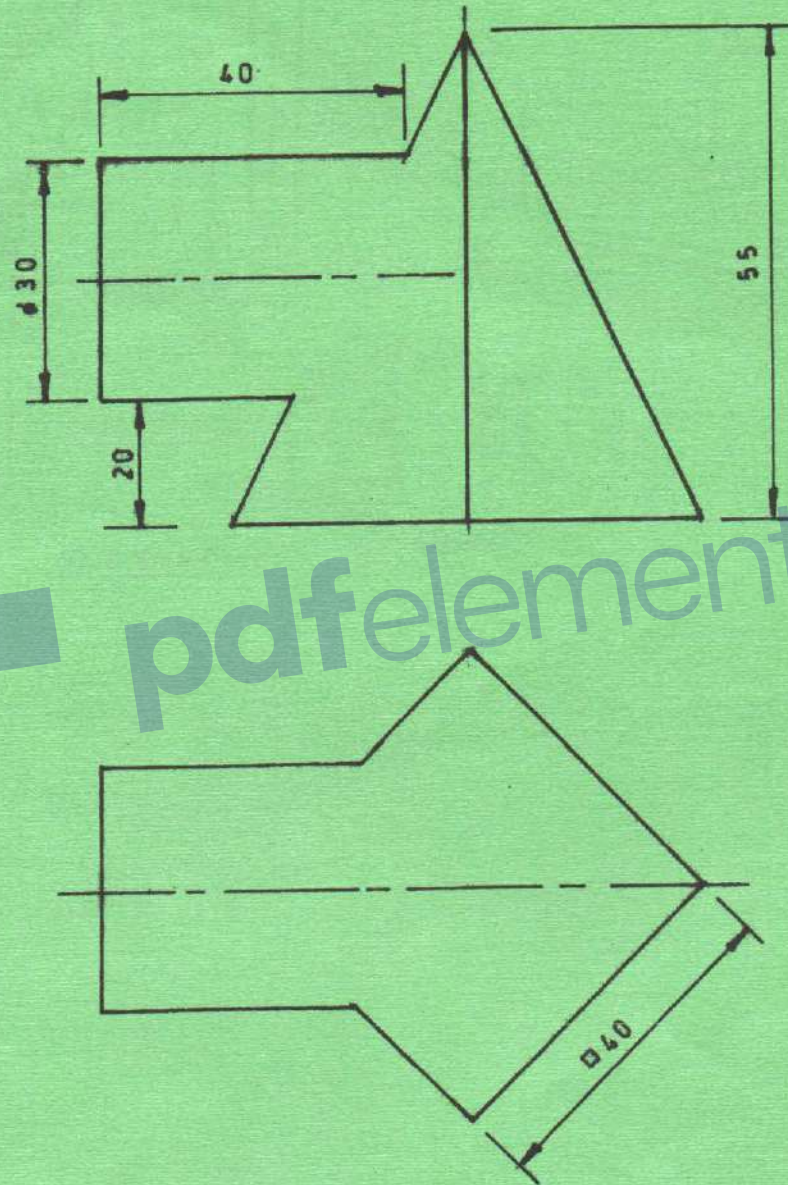

Fig. 4
7. **Figure 4** shows two incomplete views of a cylinder meeting a square pyramid at right angles. Copy the given views and complete the: